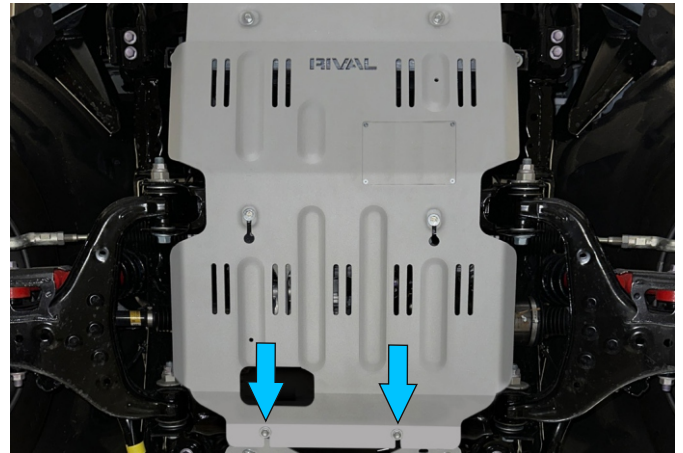

Fig. 8
8. Slide the rear of the skid plate over the previously installed M8 hardware as shown in Fig.8.